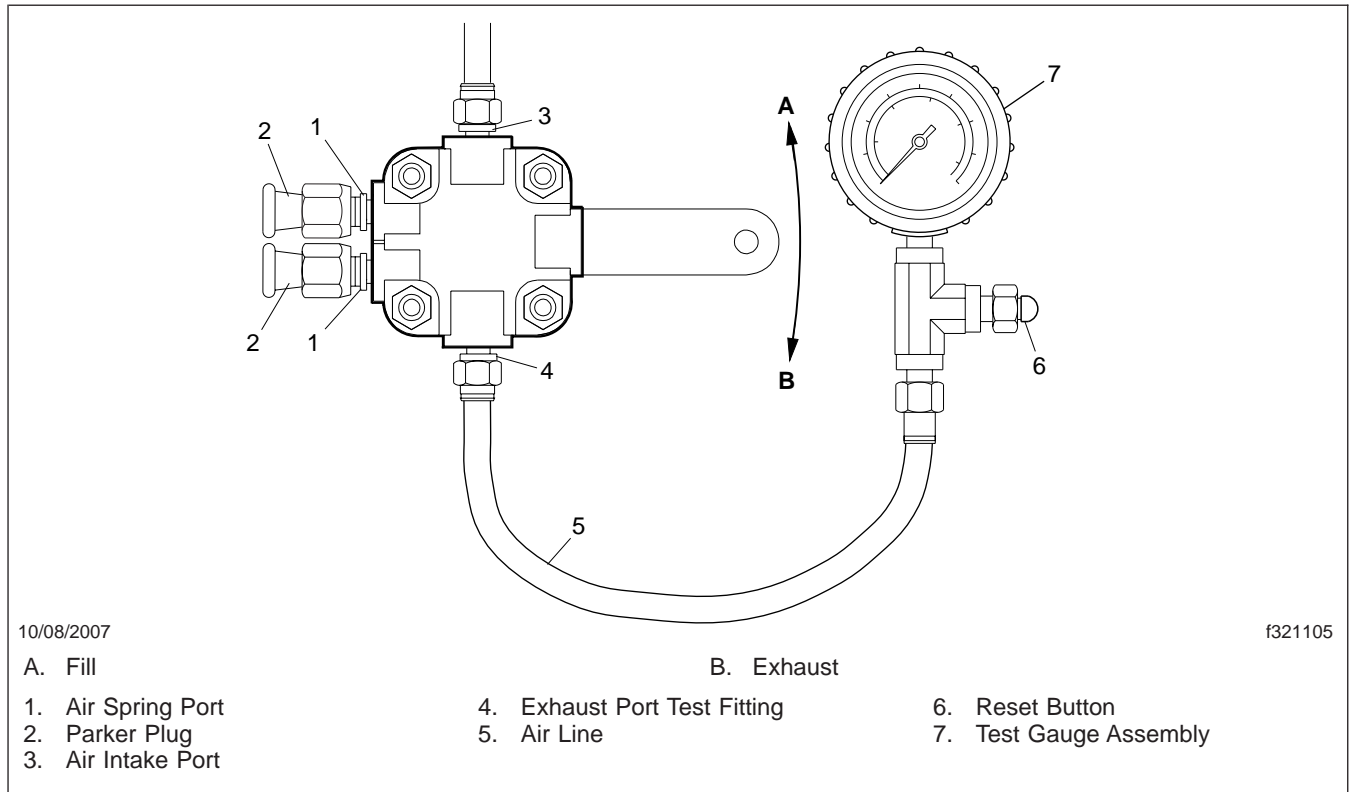

Fig. 3, Test Connections
9. Clean the surface around the exhaust port, then install the test fitting into the exhaust port. The centering pin on the fitting must align with the slot on the exhaust port. Rotate the test fitting 45 degrees clockwise to lock it in place; see Fig. 3.